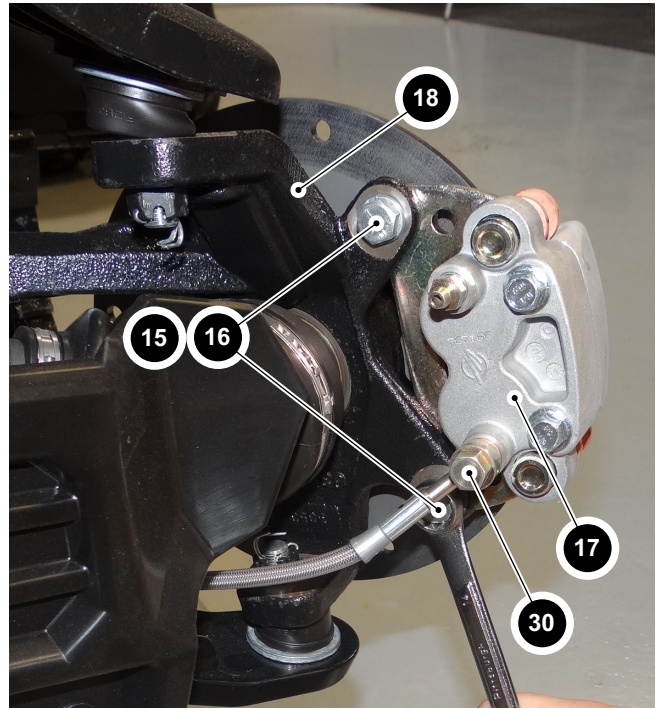

Fig. 5 Brake Caliper Removal
3. Remove the two bolts (15) and lock washers (16) that secure the caliper assembly (17) to the spindle (18) (Ref. Fig. 5). Swing the caliper free from the spindle and the rotor.